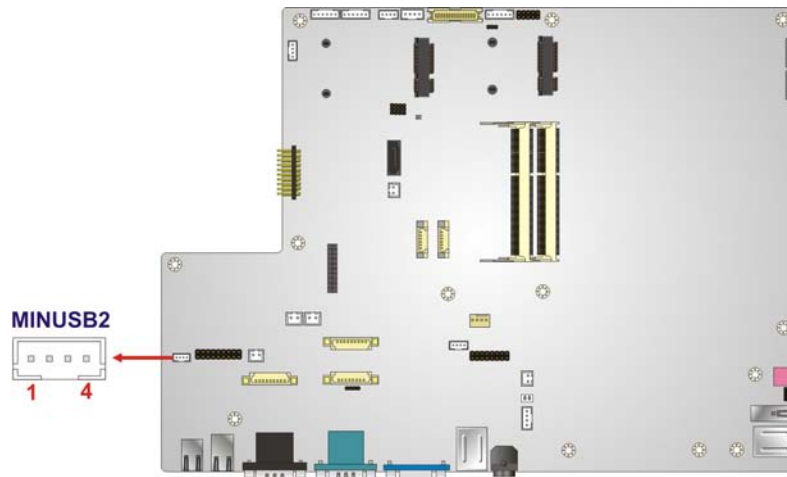
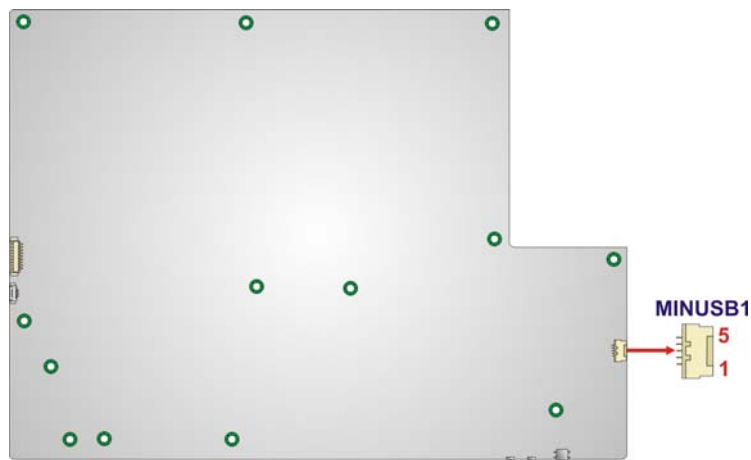

Figure 5-23: Mini USB Connector Location (MINUSB2)
Figure 5-24: Mini USB Connector Location (MINUSB1)
- CN Location: See **Figure 5-23, Figure 5-24**